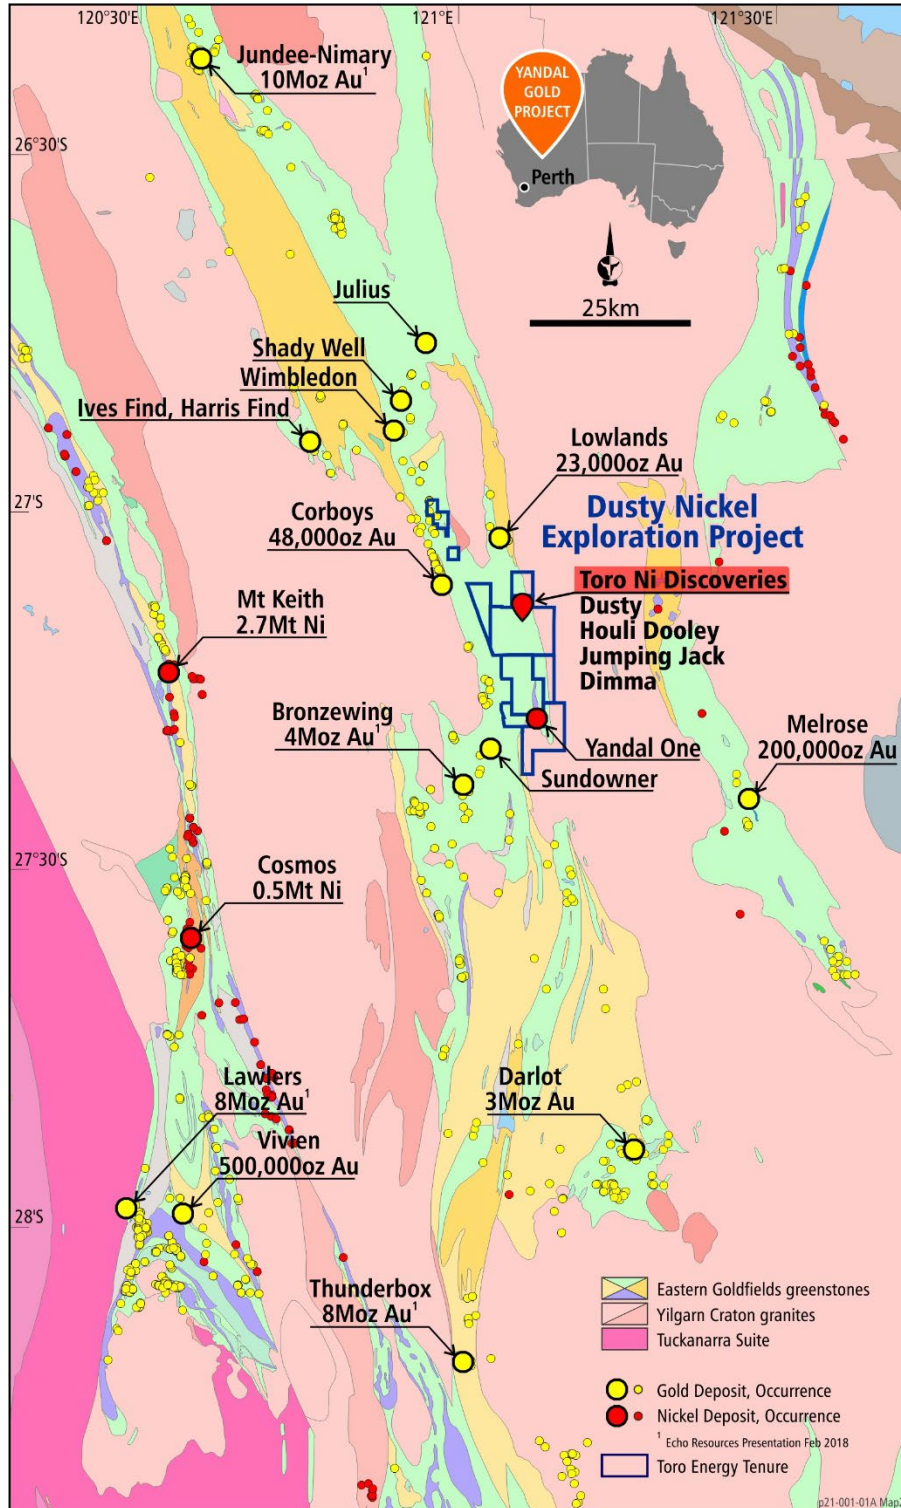

Figure 5: Location of the Dusty Nickel Project and the recent Toro Ni-sulphide discoveries
- Dimma is one of four (4) massive and semi-massive Ni-sulphide discoveries at Toro's 100% owned Dusty Nickel Project (see below), located in the Yandal Greenstone Belt, some 50km east of the world class Mt Keith Nickel Deposit (see Figure 5)